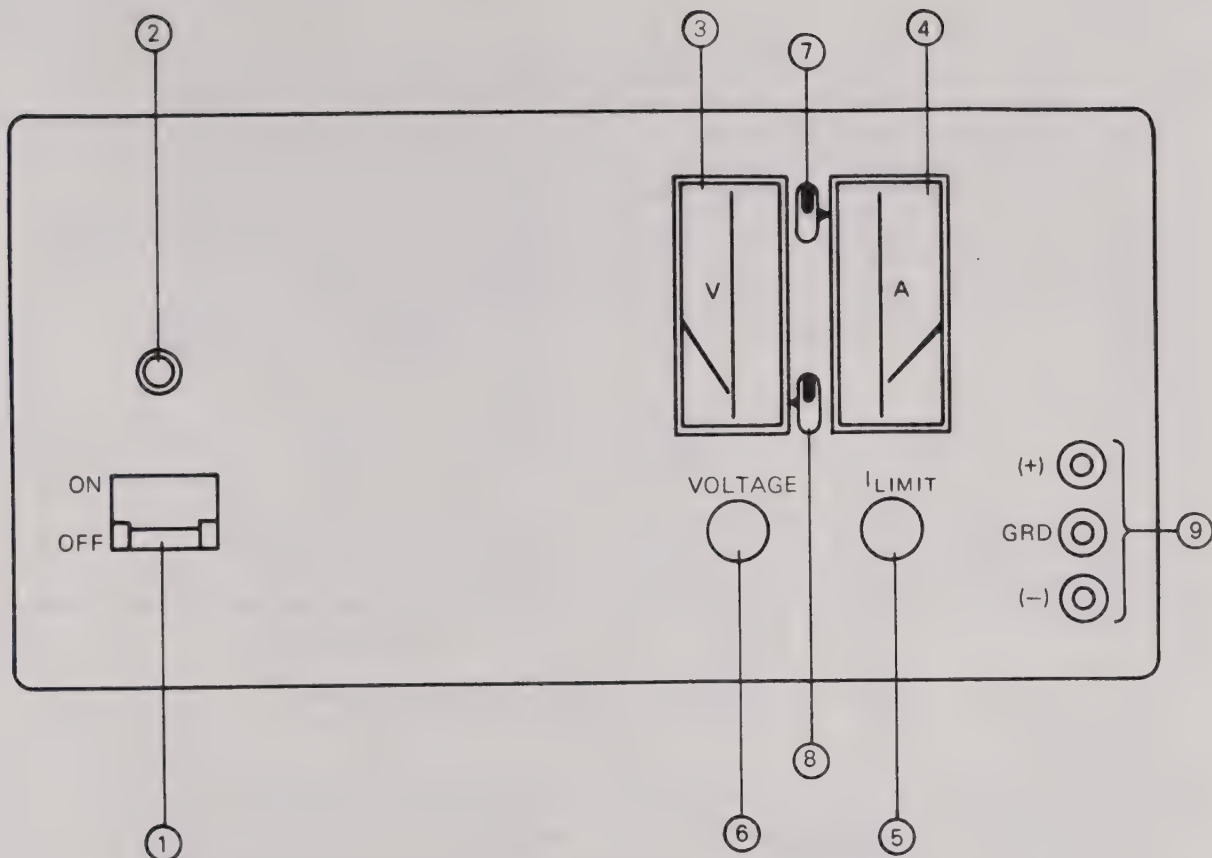

FIG. 2-3 FRONT PANEL CONTROLS AND TERMINATIONS, HALF-RACK JQE MODELS
- a) FRONT PANEL: Refer to FIG. 2-3 and TABLE 2-2.
- 2-9 A simple operating check after unpacking and before permanent installation is advisable, to ascertain whether the power supply has suffered damage resulting from shipment. Please refer to FIGS. 2-3, 2-4 for the location of the operating controls and output terminals.